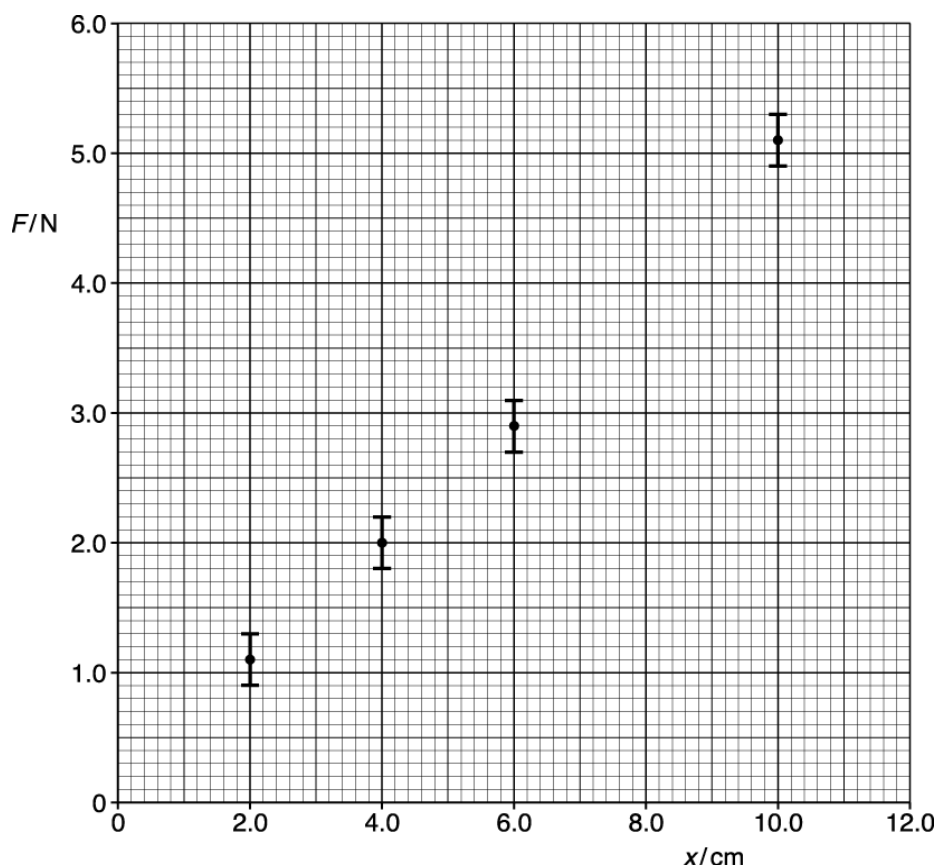

Fig. 17.2
Fig. 17.2 shows four data points from the table plotted on a F against x graph.
- i. Plot the missing data point and the error bar on Fig. 17.2.
- iii. Draw the best fit and the worst fit straight lines on Fig. 17.2.